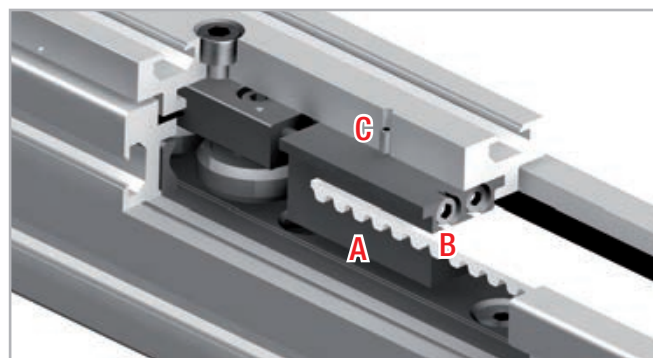

Fig. 15
1. Unscrew the safety screws C (on top of the slider plate) from the belt tensioning device A (see fig. 15).